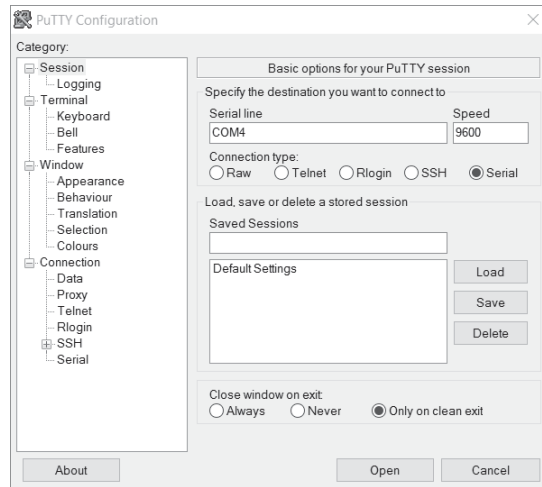

Figure A.19 PuTTY screen.
3. Invoke the PuTTY program. In its application window, select the Serial button for serial port and enter the previous recorded COMn in the Serial line field. Make sure that the 9600 baud rate is specified in the Speed field. The completed configuration screen is shown in Figure A.19.